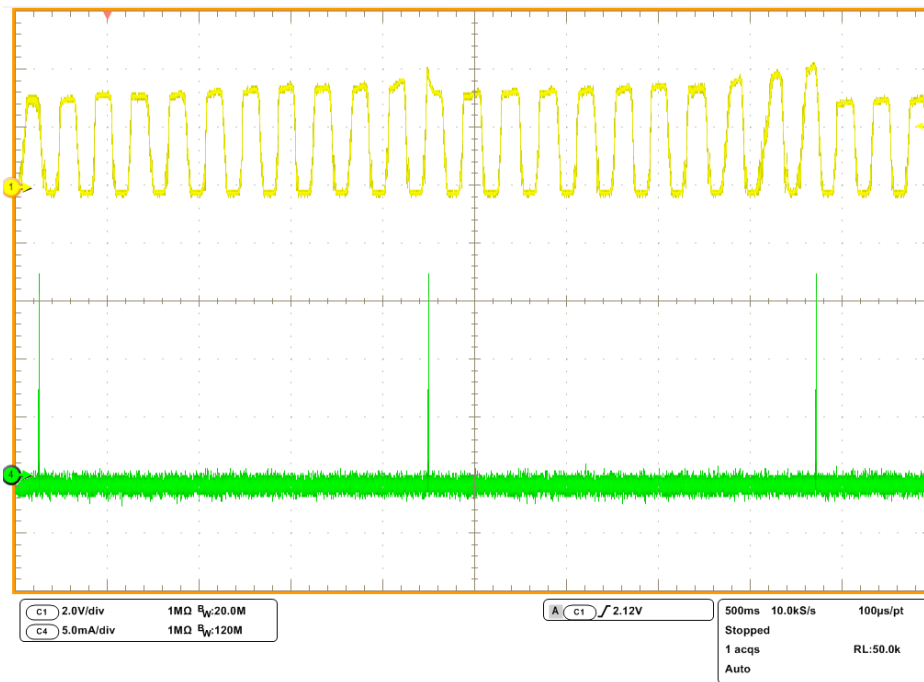

Figure 4-3. Sample Waveform for Operation of Vibration Energies
3. Follow steps 3 to 5 in 4.1.4 Establishing BLE Connection to confirm that the Energy Harvesting Motherboard is operating. Figure 4-3 is sample waveform for the operation of vibration energies. If the Motherboard is not operating, you may have to increase the vibration energy. See the documentation for the EHD being used.